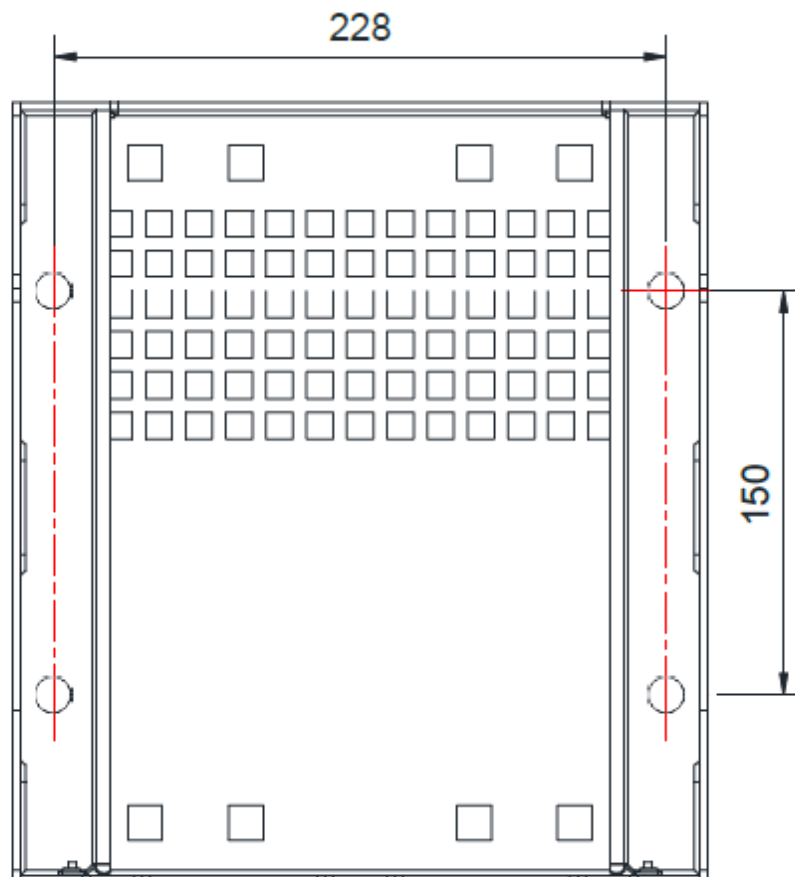

Figure 4 Wall-mounting Drilling Dimension Diagram
Step 1: Remove the mounting rack from the MRU, use percussion drill to drill 4 pole of $\Phi 14$ with 65-75 mm depth, as shown in Figure 4.